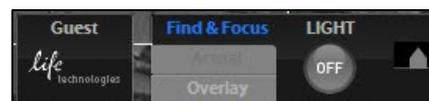

Figure 30 Login Button
1. Click the login button at the bottom left of the screen. This is the Life Technologies logo with the current user profile indicated above. (Figure 30)